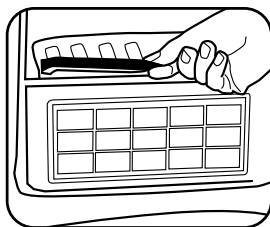

Fig. 5
2. Remove the secondary filter, and replace it with a new filter (Fig. 5).